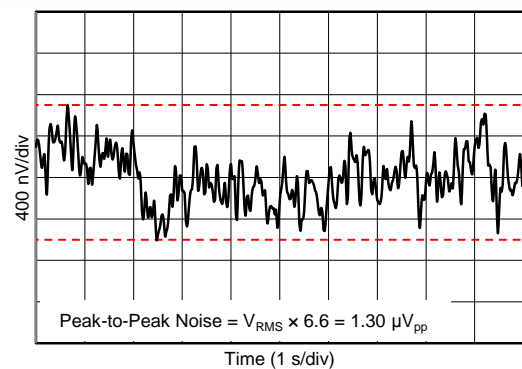

Figure 24. 0.1-Hz to 10-Hz Noise
0.1-Hz to 10-Hz Noise	Figure 24